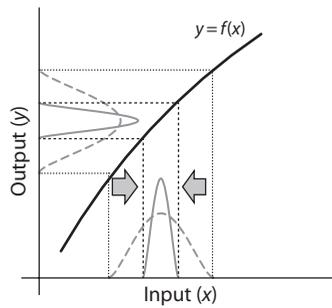

Figure 4.9 Reducing input proportional to output variation.
- *Method 1:* Tighten input variation. Reduce output variation (y) by reducing variation in process inputs (x 's). In this method, variation in output is reduced proportionally to input variation. Figure 4.9 shows this relationship between input versus output.